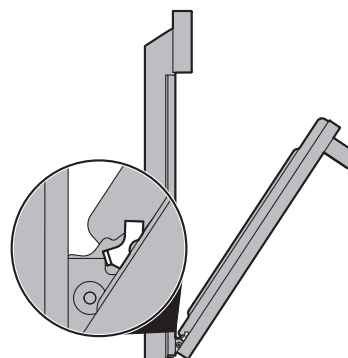

Figure 13: Removal position
Self-cleaning oven interior	Before setting a self-clean cycle, clean soils from the oven frame, areas outside the oven door gasket, and the small area at the front center of the oven bottom. "Figure 13: Removal position" on page 52.
3. Grasp the door by the sides, and close the door until the door frame makes contact with the unlocked hinges (Figure 13).
2. Hold the oven door at the same angle as the removal position (Figure 13) Carefully insert the hinge levers into the oven frame until you feel the hinge levers are seated into the hinge notches. The hinge arms must be fully seated into the hinge notches before the oven door can be fully opened.